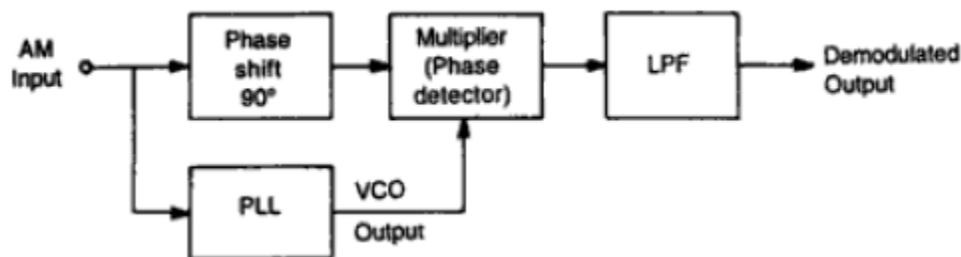

Figure 31: PLL used as AM demodulator
- A schematic for shifting the frequency of an oscillator by a small factor is shown in Fig. 31.